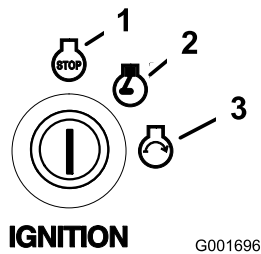

Figure 13
6. Turn the ignition key to Start (Figure 13). When the engines starts, release the key.
4. Turn the ignition key to the off position and remove the key (Figure 13).